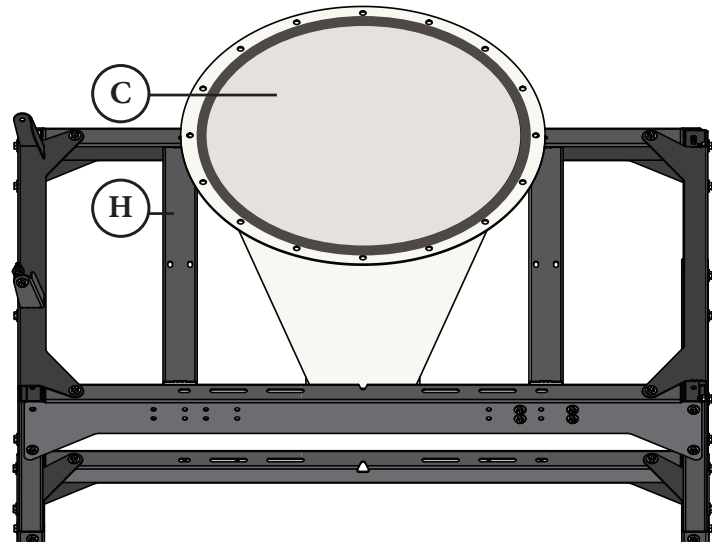

FIG. 7
- 7** Lift the Cone (C) onto the Stand (H), making sure to align the Cone's flange holes with those on the Stand (H)[FIG 7].